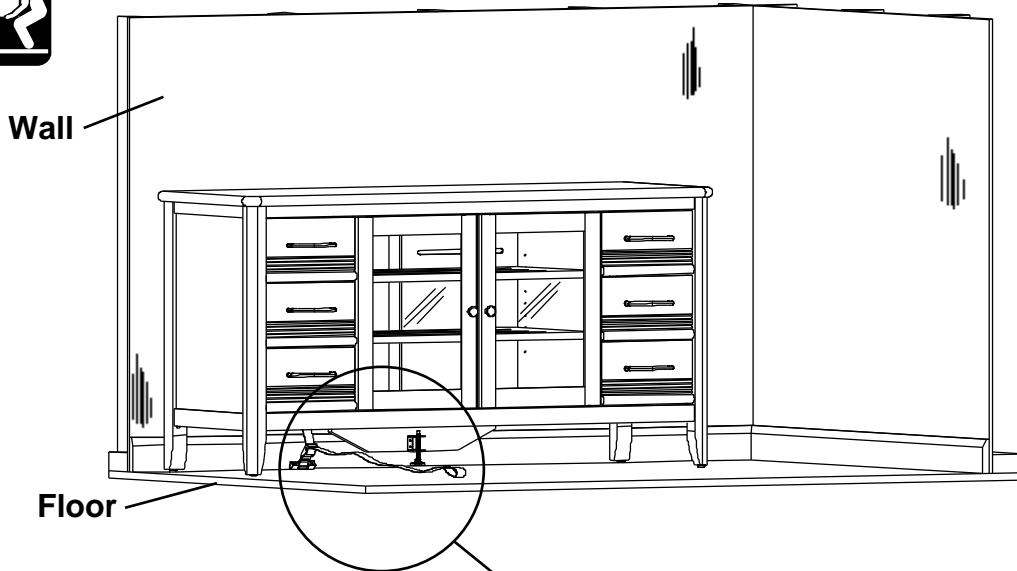

Fig. 6
6. Move the item back into position against the wall and reach underneath the piece of furniture to grasp the loop in the free end of the strap. Pull the free end of the strap until portion between the Cam Buckle (A) and the back apron of the item is tight. See Figures 6 and 6a. If you need to move the piece of furniture reach beneath and locate the buckle which connects the two sections of the strap and depress the release lever, then pull on the section of strap that is between the buckle and the back apron of the furniture until there is enough slack to allow you to pull the item away from the wall.